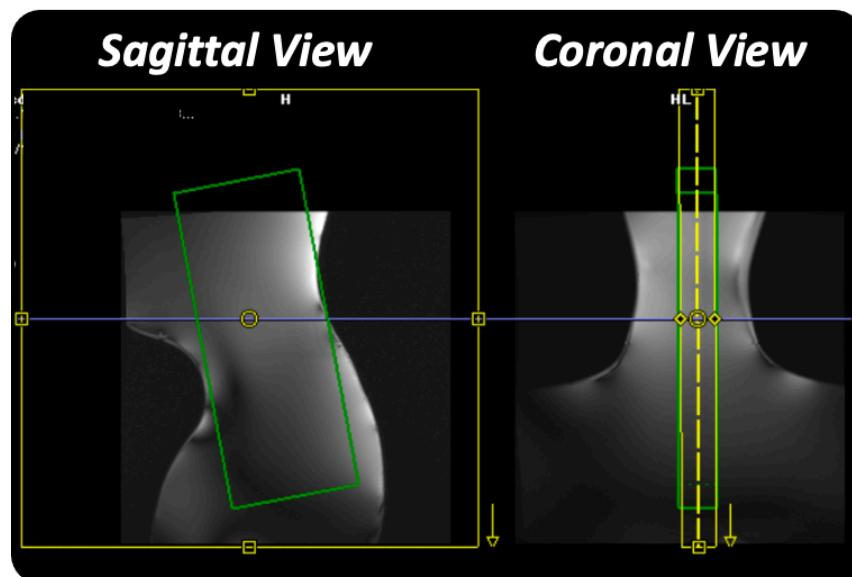

Figure 8. Positioning of FOV and B0 shim box for sagittal coilQA scans.
- **Position the Field of View (FOV) according to Figure 8.** The center of the FOV should roughly correspond to the Isocentre. If the FOV in the FH direction for the imported protocol is too large for your coil, use the largest FOV possible in the FH direction for your coil.
- **Position the B0 shim adjust volume according to Figure 8**